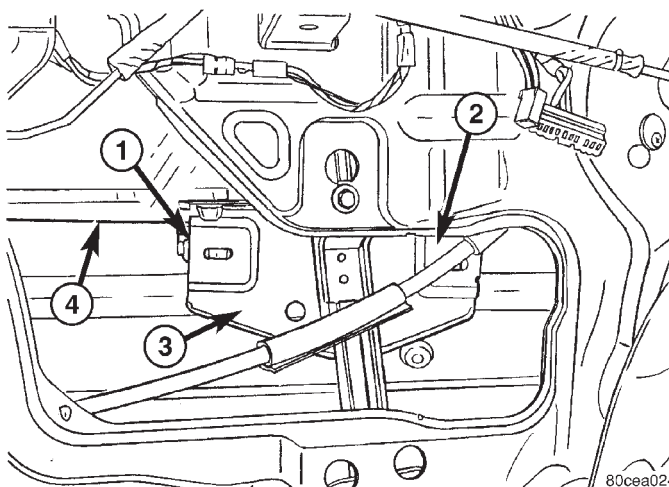

Fig. 3 DOOR GLASS/REGULATOR
- (1) Remove the outer belt molding. (Refer to 23 - BODY/WEATHERSTRIP/SEALS/FRONT DOOR OUTER BELT MOLDING - REMOVAL)
- (2) Remove the waterdam. (Refer to 23 - BODY/DOOR - FRONT/WATERDAM - REMOVAL)
- (3) Raise the glass to the position shown and using a long flat blade or hook type tool, disengage clips attaching glass retainer to regulator lift plate. (Fig. 3)
- (4) Disconnect the glass from the regulator lift plate and re-install the clips.
- (5) Rotate the top of the glass toward the front and remove the glass from the window opening.